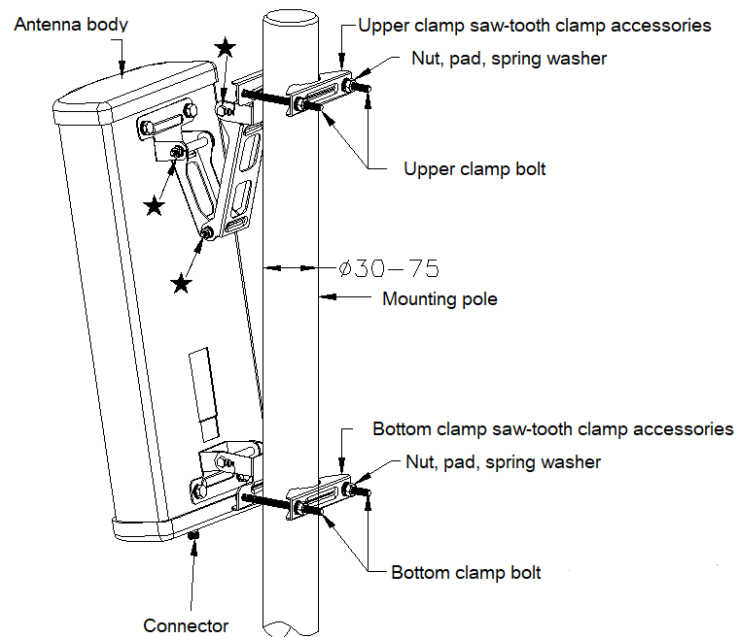

Figure 3: Antenna installation diagram
2. Install the antenna to a $\varnothing 30 \sim 75$ mm mounting pole using the clamps, screw bolts, and saw-tooth clamps as shown in Figure 3.